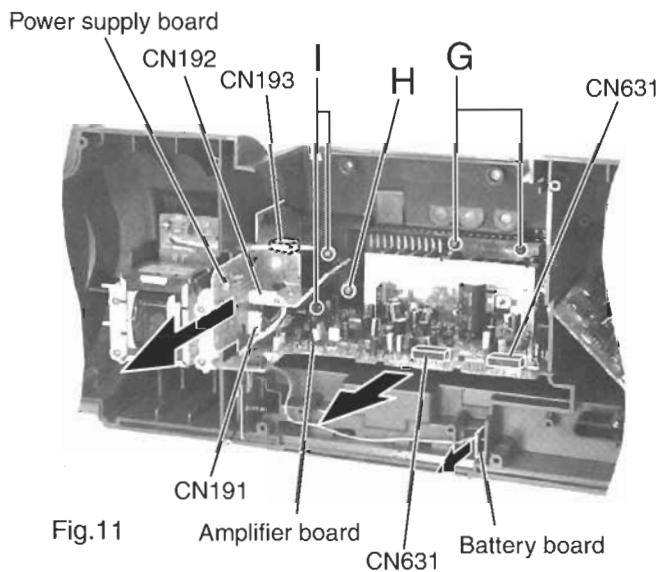

Fig.11
■ Remove the Amplifier Board, the Power Supply Board and the Battery Board (See Fig.11)